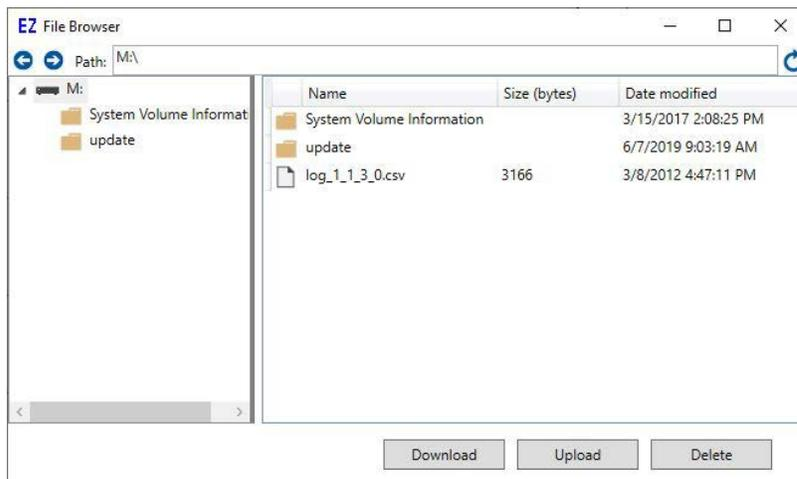

Figure 20-5
- The **File Browser** window will open. An intermediate temporary dialog may be seen while the SD card is accessed. Refer to Figure 20-5.